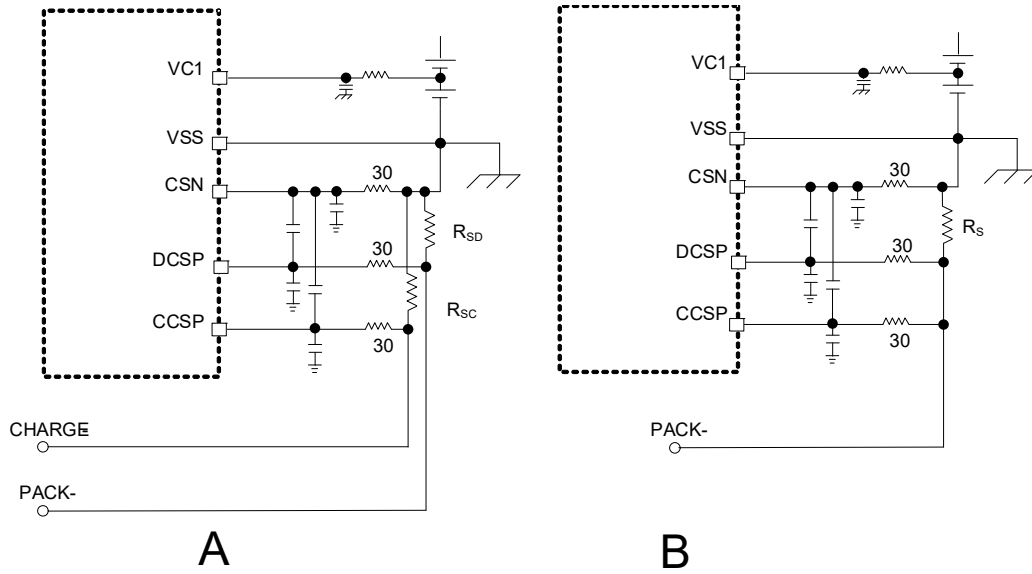

Figure 43. Current Sense (A) Split (B) Shared
Current is monitored by measuring the differential voltage across a current sense resistor connected between the CCSP (29) or DCSP (30) and CSN (31) pins (Figure 43). The current sense circuit individually monitors charge and discharge currents. Both charge (CCSP-CSN) and discharge (DCSP-CSN) currents are measured every system scan. Current measurements are interlaced with the other measurements during the system scan.
The recommended filter configuration for the current monitor circuitry is shown in Figure 43. The 30Ω resistors along with the capacitors filter system noise to minimize measurement errors. The capacitors to ground are 1μF, and the capacitors across the input pins are 1000pF